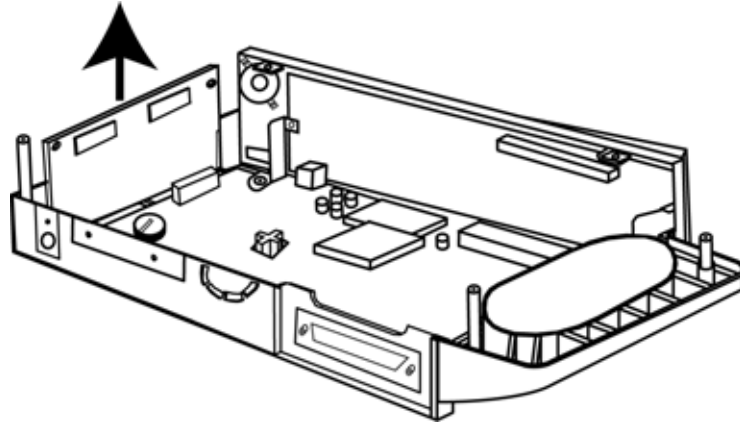

Figure 23: MP-506 Removal
4. Disconnect the main PCB cable connector from the MP-506 PCB connector, item 2.
5. Carefully lift the MP-506 PCB out of the top case. See Figure 23.